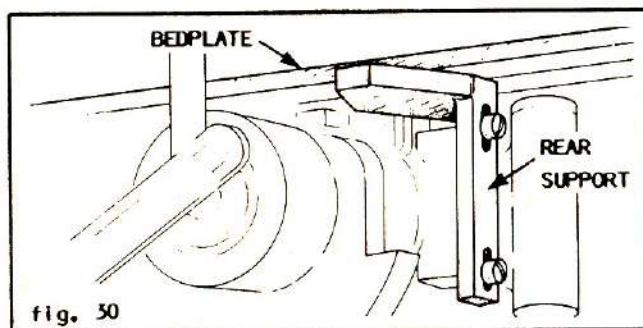

fig. 30
With bedplate in most forward position, loosen locknuts (U) and turn screws (V) inward until the play of the bedplate, between the head and the cam case is eliminated - or all wick, tighten locknuts (U). Check rear support for flat contact with underside of bedplate (fig. 30).